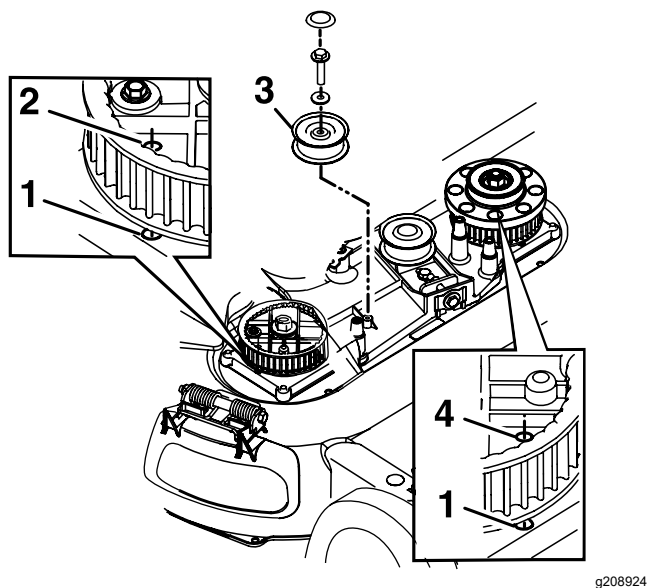

Figure 41
8. Remove the fixed idler pulley and the hardware (Figure 41).
10. Align the holes in the right and left sprockets with the holes in the housing as shown in Figure 41.